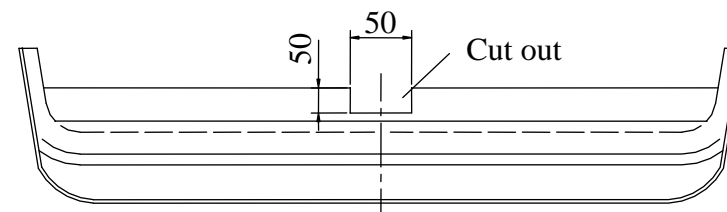

Fig. 2
4. Position the main bar of the towing hitch (pos. 1) to the trunk and fix it with the bracket (pos. 5) through the holes (pos. A) using bolts M10x35mm (pos. 9).
5. Position the sleeves L=58mm (pos. 6) at the bottom of the car, and then fix it through the holes (pos. B) using bolts M10x90mm (pos. 8) and large washers (pos. 10).
6. From the trunk side drill holes  $\varnothing 11\text{mm}$  through the towing hitch holes (pos. C) and fix it using bolts M10x35mm (pos. 9) and large washers (pos. 10).
7. Cut the bumper according to fig. 2 and then reassemble it.